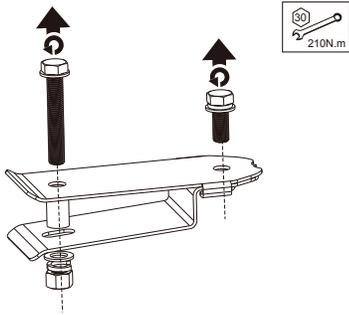

Fig. 10
1. Loosen and remove the clamp mount mounting bolts (Fig. 10).